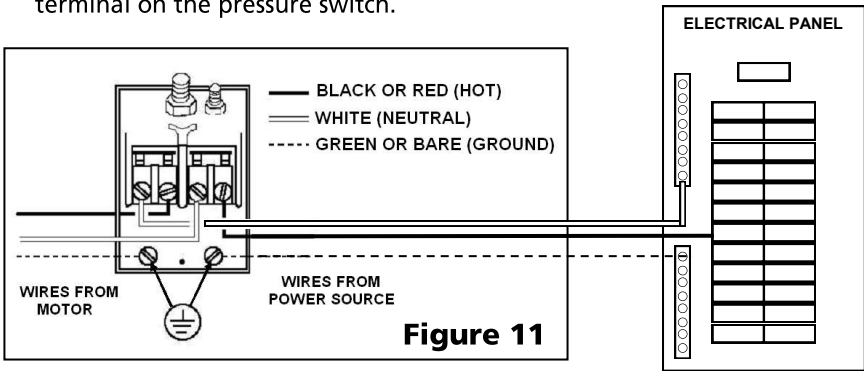

Figure 11
2. Connect one hot wire (usually black or red) from the power source to one of the screw terminals on the pressure switch. It doesn't matter which one. Follow wiring diagram in Figure 11.